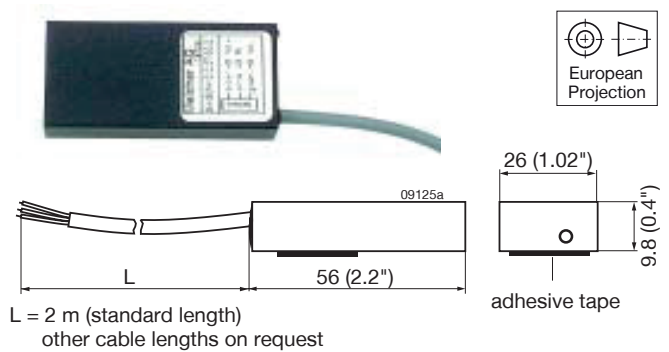

Fig. 49
- Different battery sensors S-KSMH... for using the converter as a battery charger. Different cell characteristics can be selected; see fig. 49, table 24, and *Battery Charging/Temperature Sensors*.